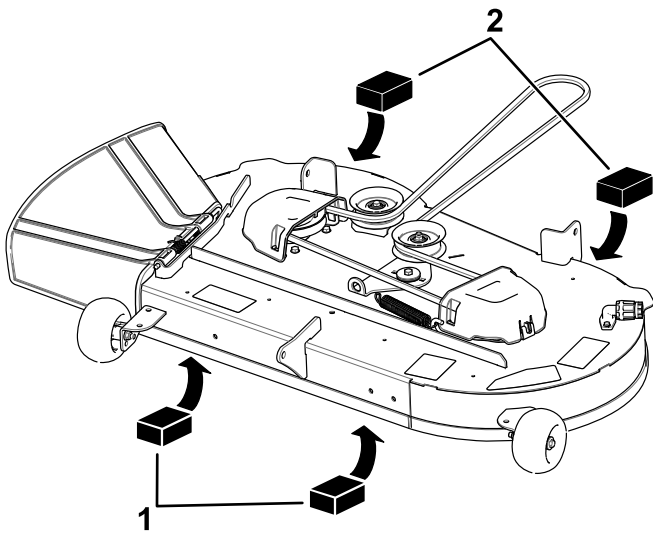

Figure 64
4. Place 2 blocks, each having a thickness of 6.6 cm (2-5/8 inches), under each side of the front edge of the deck but not under the anti-scalp roller brackets (Figure 64).
5. Place 2 blocks, each having a thickness of 7.3 cm (2-7/8 inches), under the rear edge of the cutting deck skirt, 1 on each side of the cutting deck (Figure 64).